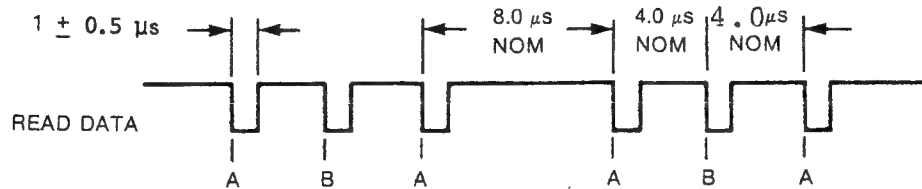
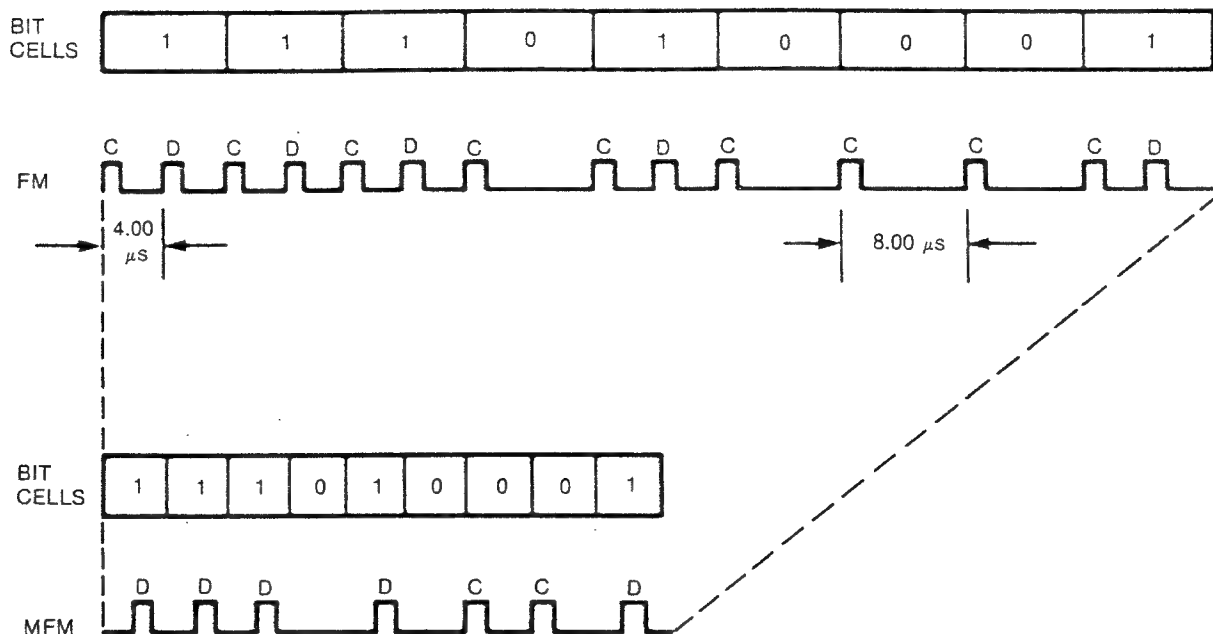

FIGURE 1-6 READ DATA TIMING (FM)
FIGURE 1-7 FM AND MFM CODE COMPARISONS
The timing of read data (FM) is shown in figure 1-6.
The encoding scheme of the recorded data can be either FM or MFM. FM encoding rules specify a clock bit at the start of every bit cell (see figure 1-6). MFM encoding rules allow clock bits to be omitted from some bit cells if the preceding bit cell or the current bit cell contains a data or clock bit. See figure 1-7.
This interface line provides the "raw data" (clock and data together) as detected by the drive electronics. Normally, this signal is a logical one level and becomes a logical zero level for the active state. See Figure 1-6, 1-7 for the timing.